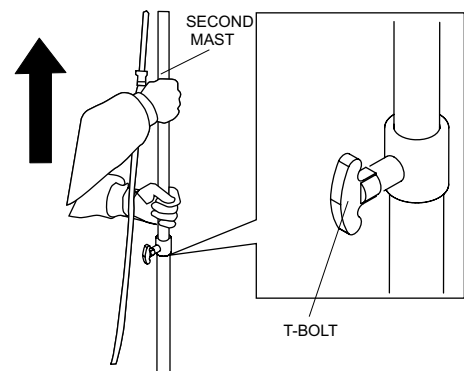

Figure 18. Raising the Second Mast
1. Raise the second mast to the desired height and tighten the T-bolt securely. See Figure 18.